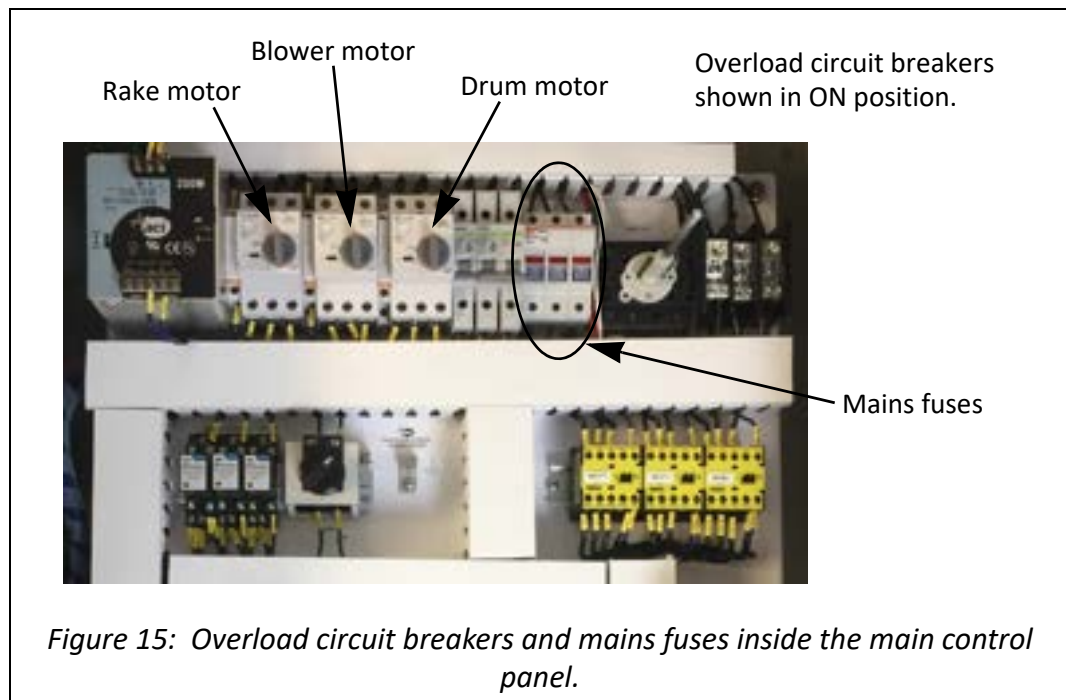

Figure 15: Overload circuit breakers and mains fuses inside the main control panel.
- There are three (3) 15 A mains fuses (see Figure 15 on page 40). These fuses should only require replacement if there has been a hard short to ground. In the unlikely event that one or more of the mains fuses have blown, the Voyager must be immediately taken out of service and disconnected from the 480V electrical supply. Do not replace these fuses without consulting with FORTA® Corporation; contact FORTA® Corporation as directed on page 7.
- Each motor in the system is protected from overload by a circuit breaker (see Figure 15 on page 40). If one or more of these circuit breakers is tripped during operation, the Voyager system is stopped and the fault display on the main control panel will indicate the appropriate fault(s). To reset the system when a motor fault occurs, perform the appropriate procedure below.
4. Open the main control panel and reset any overload circuit breakers that are tripped; see Figure 15.
4. Open the main control panel and check if the drum motor overload circuit breaker is tripped; see Figure 15. If the circuit breaker is tripped, reset it and continue with step 5. If the circuit breaker is not tripped, contact FORTA® Corporation as directed on page 7.